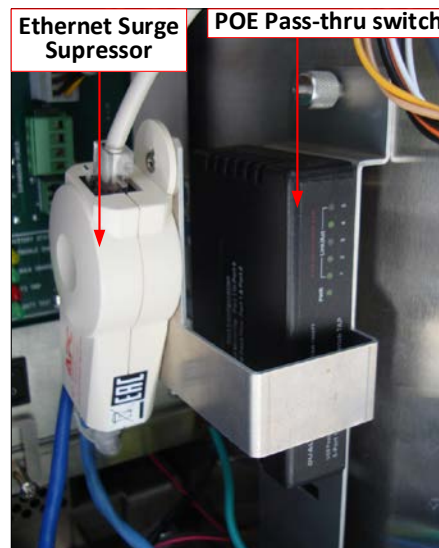

Figure 35. PoE Pass-Thru Switch and Ethernet Surge Suppressor
2. Connect the network cable by inserting the RJ-45 connector at the XPT into port 1 of the PoE pass-thru switch located inside the XPT. A patch cable connects port 3 of the PoE switch to the Ethernet surge suppressor. (See Figure 35)